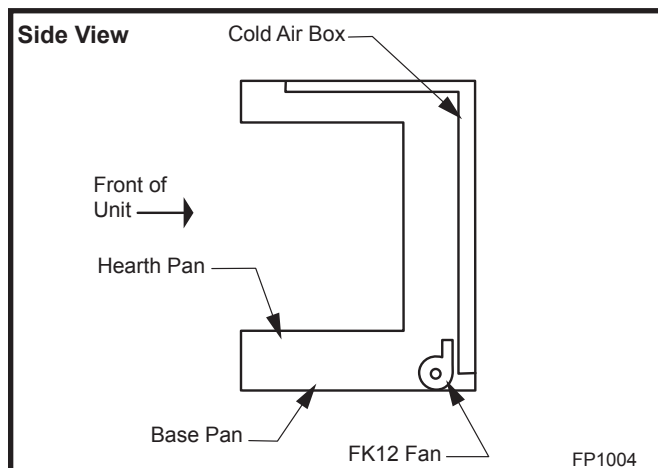

Fig. 59 FK12 Fan Kit placement.
2. Install FK12 fan in back of unit between hearth supports. (Fig. 59)